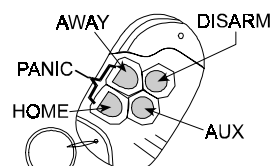

Figure 21. MCT-234
A. MCT-234 (Fig 21): ‘Keyfob’ transmitter - one unit is supplied with the PowerMax. You can program the AUX (auxiliary) button to perform various tasks, in accordance with the user’s needs.